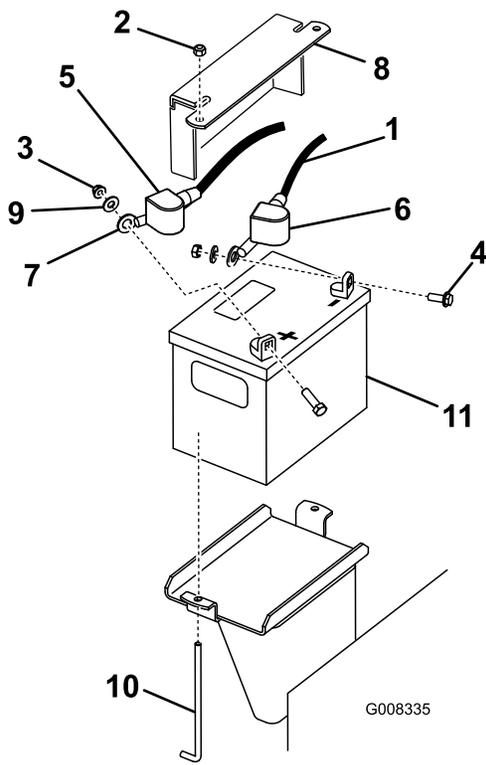

Figure 42
3. Lift the black rubber cover on the negative cable. Disconnect the negative battery cable from the negative (-) battery terminal (Figure 42).
- Slide the red terminal boot off the positive (red) battery terminal. Then remove the positive (red) battery cable (Figure 42).
- Remove the hold down plate, j-bolts, and locknuts securing the battery (Figure 42) and remove the battery.
- Place the battery onto the machine (Figure 42).
- First, install the positive (red) battery cable to positive (+) battery terminal with a nut, washer and bolt (Figure 42). Slide the rubber cover over the post.
- Then install the negative battery cable and ground wire to the negative (-) battery terminal with a nut, washer and bolt (Figure 42). Slide the rubber cover over the post.